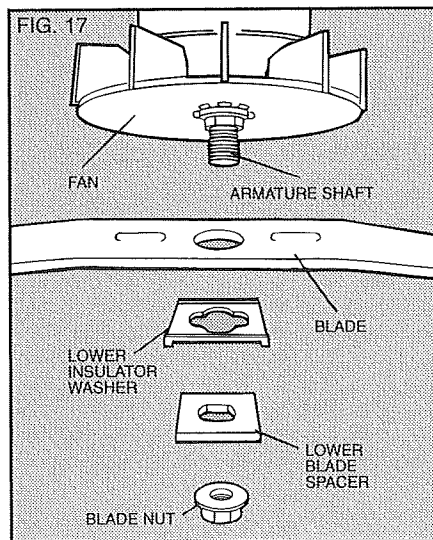

FIG. 17
4. Remove lower blade spacer, lower insulator washer and blade (Figure 17)